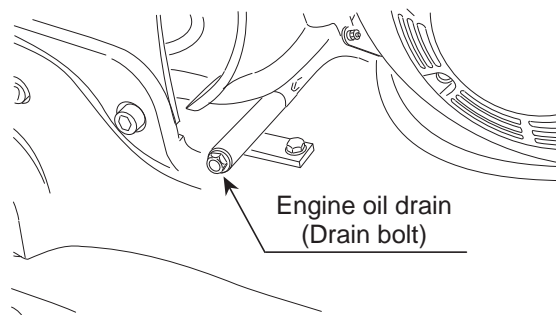

Figure 28. Draining Engine Oil
1. Remove the oil drain bolt (Figure 28). and sealing washer and allow the oil to drain into a suitable container.